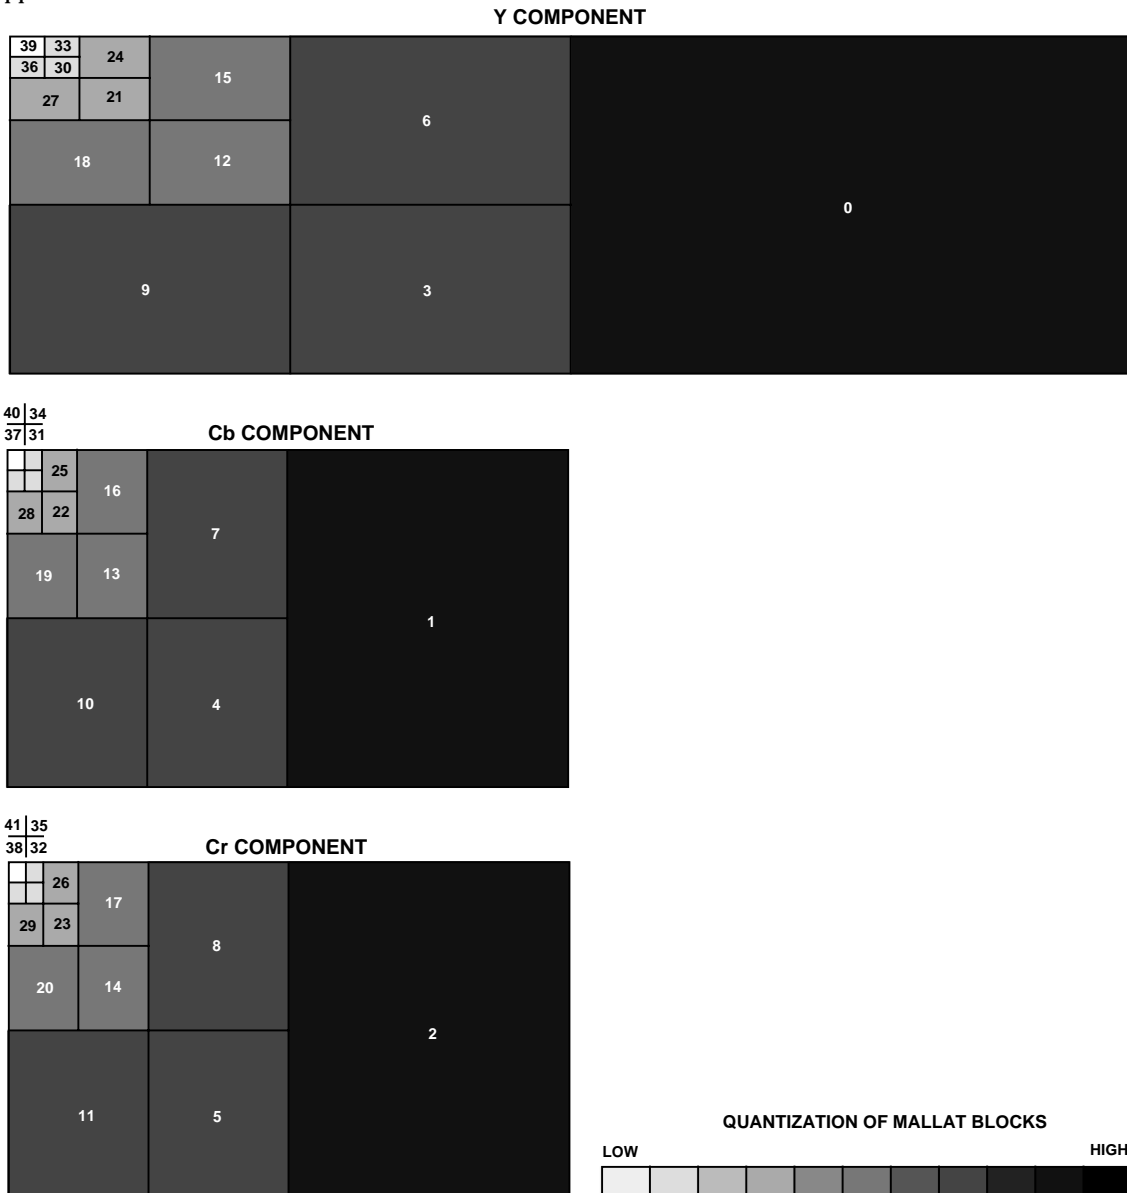

Figure 8. Typical Quantization of Mallat Data Blocks (Graphed)
Figure 8 shows how a typical quantization pattern applies over Mallat block data. The high frequency blocks receive much larger quantization (appear darker) than the low frequency blocks (appear lighter). Looking at this figure, one sees some key point concerning quantization: (1) quantization relates directly to frequency in Mallat block data and (2) levels of quantization range widely from high to low frequency block. (Note that the fill is based on a log formula.) The relation between actual ADV601LC bin width factors and the Mallat block fill pattern in Figure 8 appears in Table II.
¹The Mallat block numbers, Bin Width factors, and Reciprocal Bin Width factors in Table II correspond to the shading percent fill) of Mallat blocks in Figure 8.